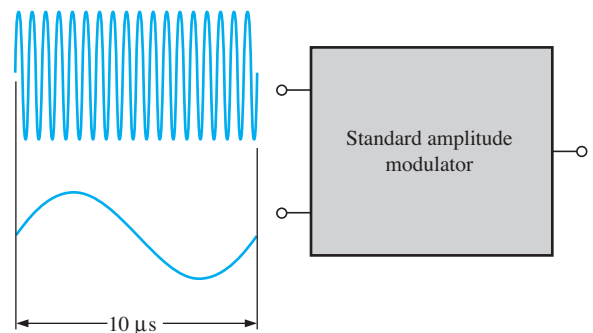

FIGURE 13-53
13. What are the frequencies on the output of the standard amplitude modulator in Figure 13-53?